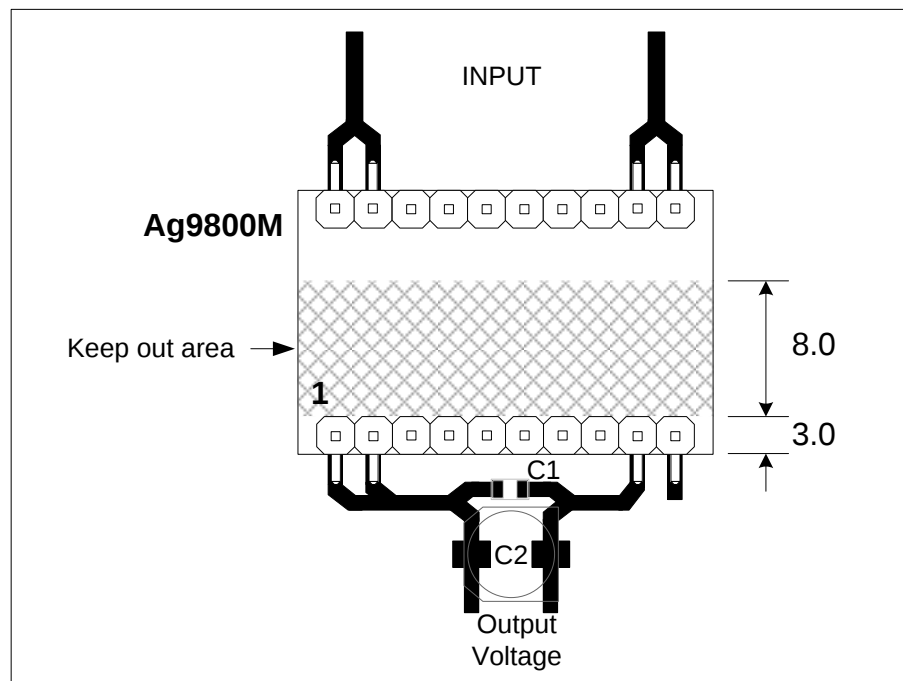

Figure 8: Layout Consideration
To meet the safety isolation requirements of IEEE802.3af section 33.4.1 a Powered Device (PD) must pass the electrical strength test of IEC 60950 sub clause 6.2. This calls for either a) 1500Vac test or b) 1500V impulse test. The Ag9800M is specified to meet the 1500Vdc impulse test. It is also important that the tracks on either side of the isolation barrier have at least a 3mm clearance, see Figure 8 and Section 7 for more information.
Figure 8 shows our suggested board layout for the Ag9800M, with reference to the basic output configuration shown in Figure 5.